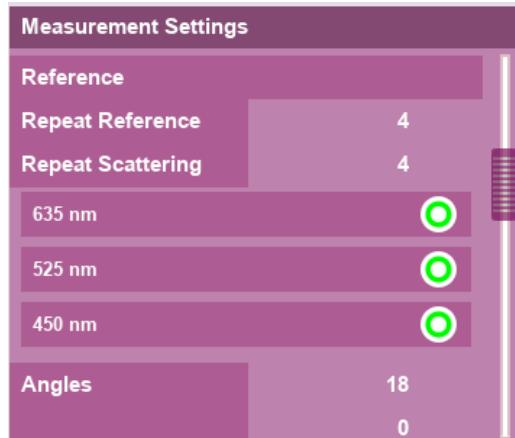

Figure 217 – Example of NE-400 Wavelength Selection
12. Confirm that your desired wavelength is selected. Figure 217 shows all three wavelengths enabled which is the most common selection for a NE-400.